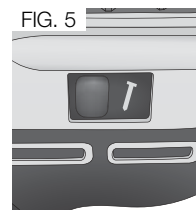

FIG. 5
## SEQUENTIAL ACTION ↗ (FIG. 5)
1. Slide the selector switch to the left, as shown in Figure 5.